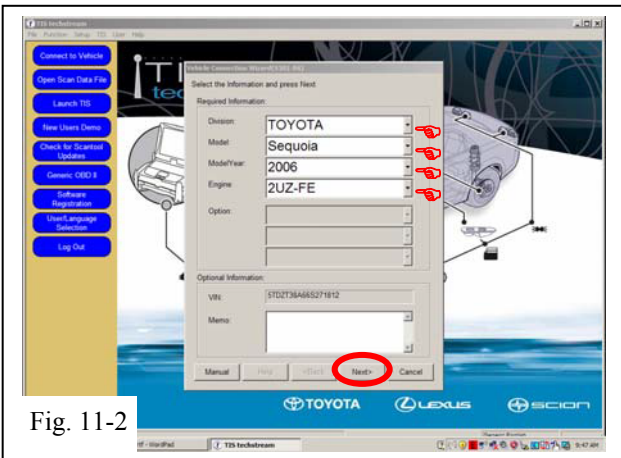

Fig. 11-2
- Confirm that the information displayed on the Vehicle Connection Wizard is correct. If not make the appropriate selections from the Drop Down Menus then click Next. (Fig. 11-2)